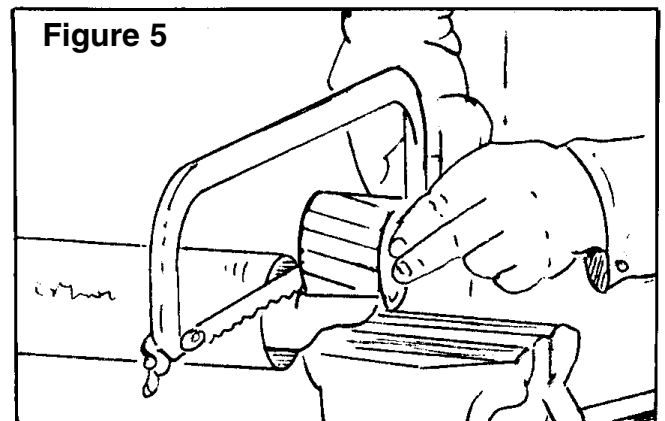

Figure 5
6. If driveline must be cut to a shorter length, clamp driveline in a well padded vise to prevent damage to the shield. Cut off shield where marked. Using cut-off section of shield as a guide, cut shaft the same amount. (Figure 5.)